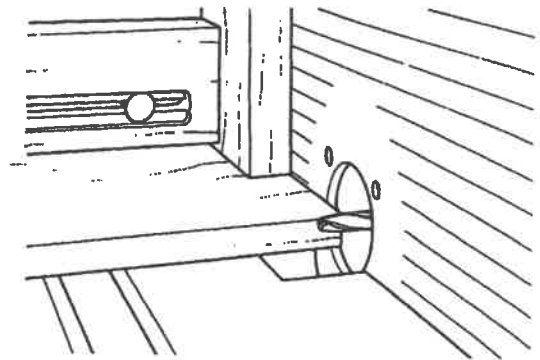

Fig. E-1
3. Raise the center of the bit level with the sliding table of the sliding table jig, as in Fig. E-1.